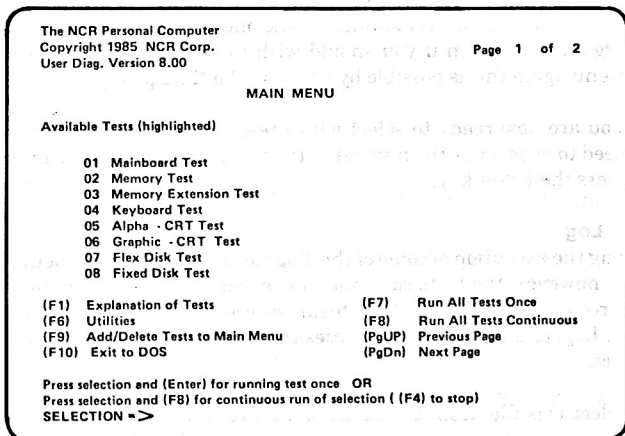

Figure 3-2
- Respond to the messages that are displayed on the screen until the Main Menu is displayed. The Main Menu displays are shown in Figures 3-2 and 3-3.